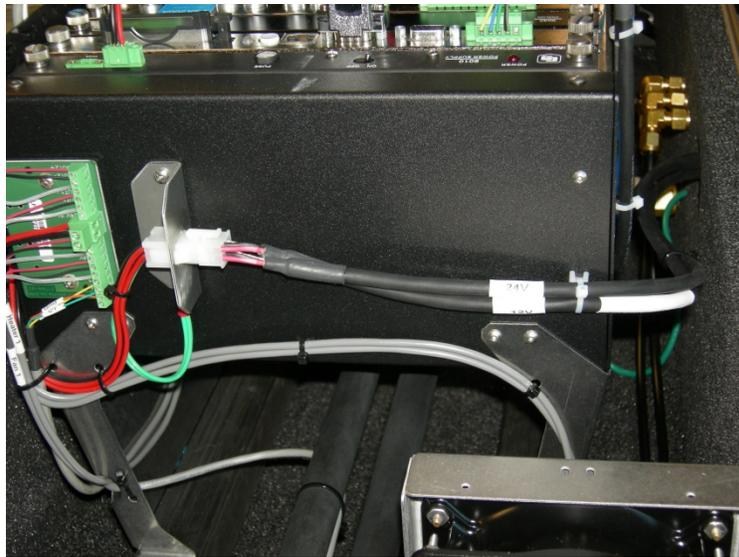

FIGURE 6-11. DC power cable connected to TGA200A and secured on electronics box
2. Remove the cable feedthrough cap from side of the TGA enclosure and insert one end of the DC power cable. Plug the DC power cable into the mating connector on the electronics box and secure the cable to the corner of the electronics box as shown in FIGURE 6-11.